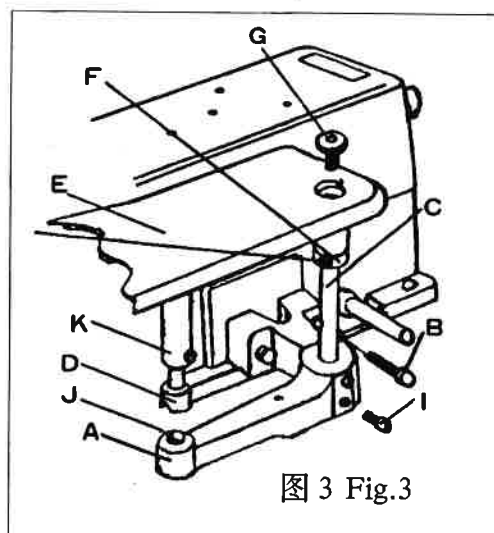

图 3 Fig.3
(4) 托板组件的安装(图 3)
① 用支座螺钉 "B" 将支座 "A" 固定在机头上(顶销 "J" 和长、短弹簧片已先组装好).
② 将轴肩螺钉 "G" 旋入托架轴 "C" 的螺孔中并紧后将托架轴从上向下插入支座孔中,再套上挡圈 "F",旋紧挡圈螺钉 "H",使托架轴定位,但转动应灵活.
- ③将定位销 "D" 插入定位套筒 "K" 的孔中,用螺钉按定位方向固定.
- ④将托架轴 "C" 插入支座右孔中,调节好托板 "E" 高度后旋紧螺钉 "I".
- ⑤开闭托板应灵活,能自锁.
(4) Fitting work plate components(Fig.3)
① Fix bracket "A" on machine head with bracket screw "B" (Spring pin "J", short and long spring leaves are already assembled).
② First turn collar screw "G" up tight into the hole of work plate shaft "C", and then insert the work plate shaft into the hole of the bracket,finally put on retainer ring "F" and tighten retainer ring screw "H". Be sure to make the shaft rotate smoothly while securing the work plate shaft in place
③ Insert positioning pin "D" into the hole of positoning sleeve "K" and turn it up tight with screw in direction of location.
④ Insert work plate shaft "C" into the right hole of the bracket,after regulating the height of the wore plate "E", tighten screw "I".
⑤ Be flexible to open or close work plate; capable of auto-lock control of it.